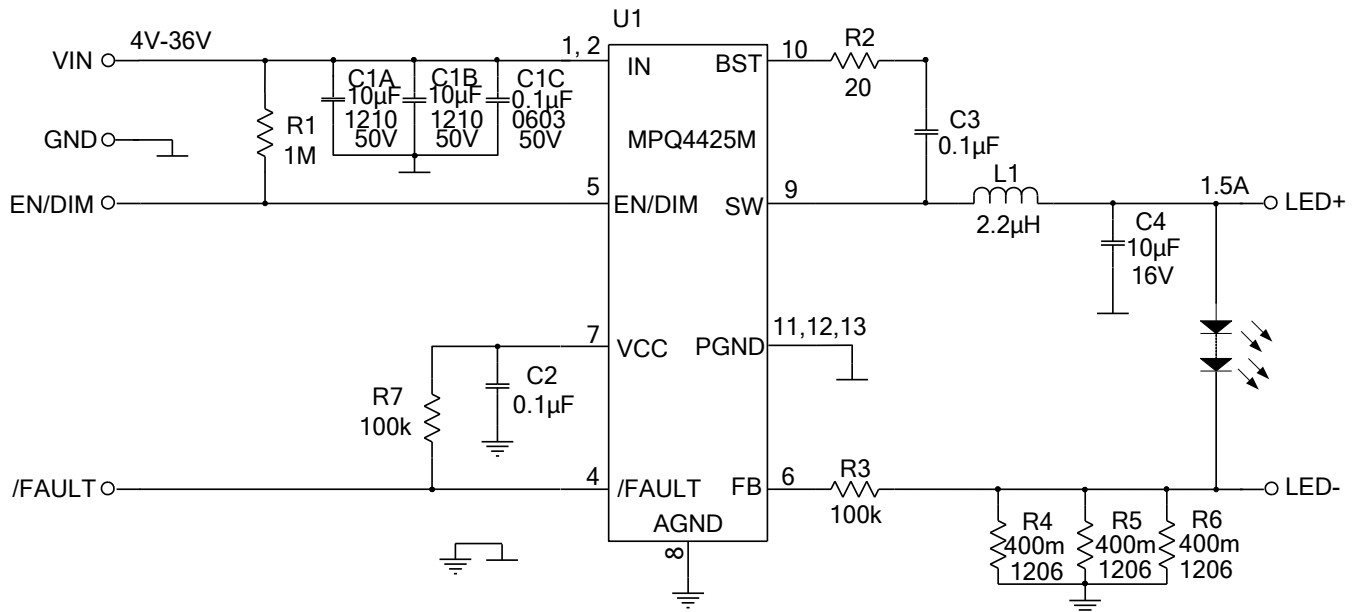

Figure 8: Io=1.5A Application Circuit
7) The recommended layout is based on Figure 8.